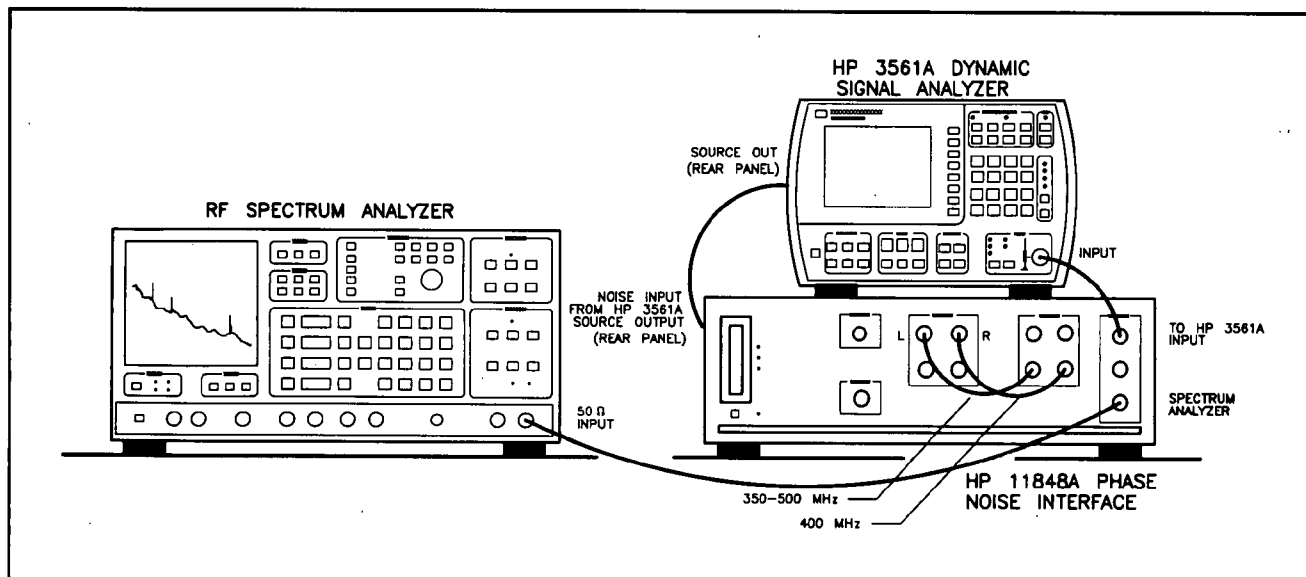

Figure 5. Noise Flatness Test Setup
6. Connect the instruments as shown on the on-screen connection diagram and in Figure 5.